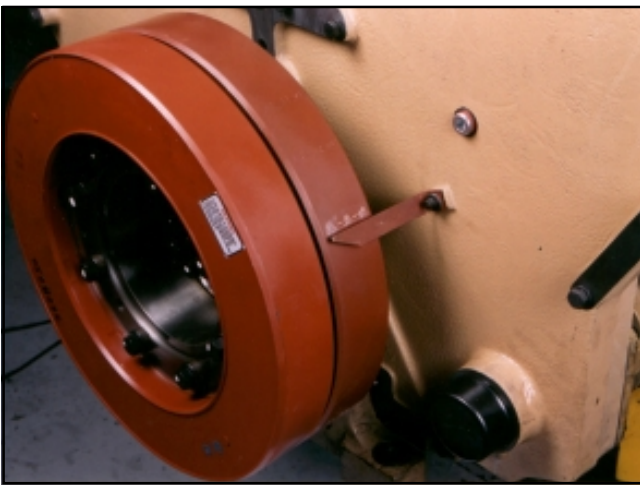

Fig. 7-17. Valve set marks on vibration damper KT/KTA 2300
1. When viewing the engine at the vibration damper, Fig. 7-17, align the timing marks on the damper with the pointer on the gear case cover.